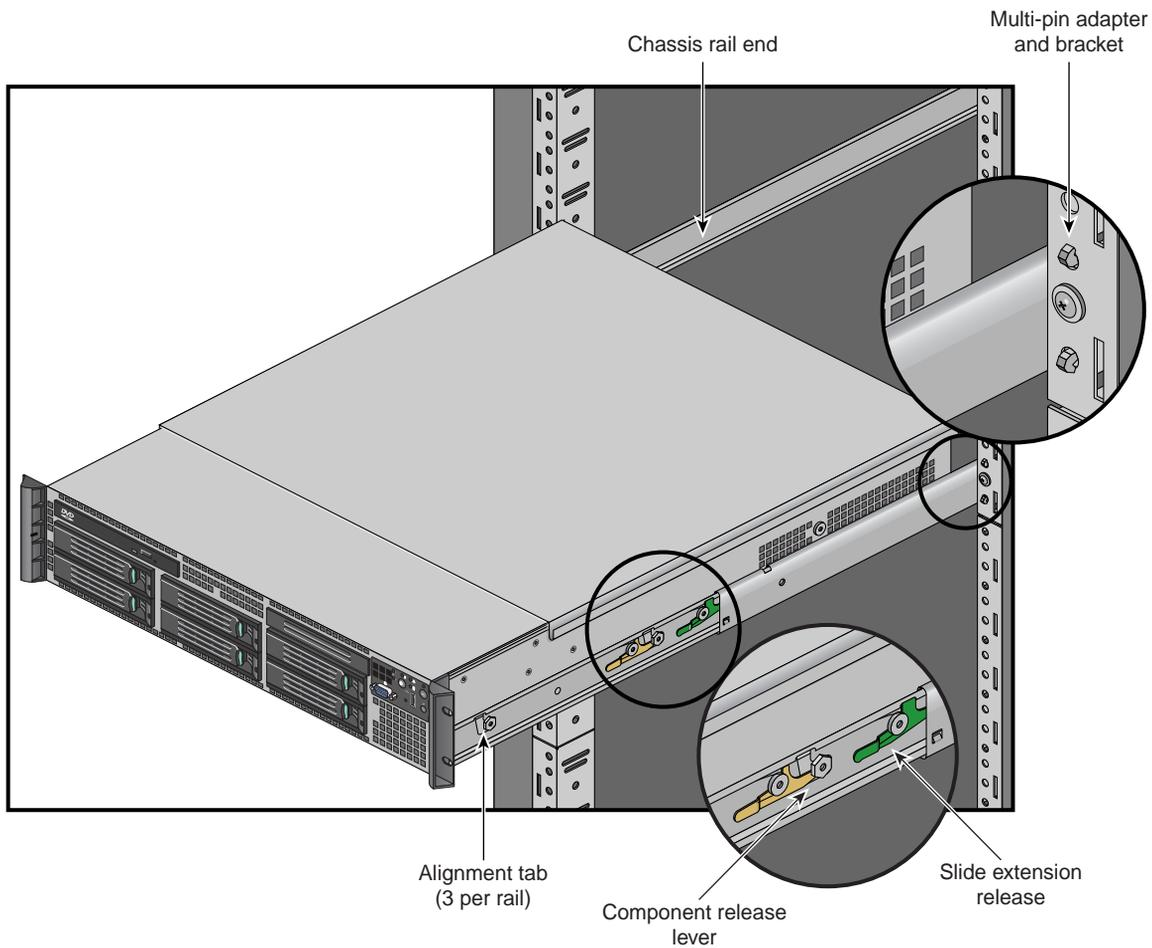

Figure 1-17 Data Manager Slide Rails
Position and secure the support rails in the rack using the information in the following steps and Figure 1-17 on page 20.
- Confirm that all the data manager's mounting studs are correctly in place on the slide rails (see Figure 1-17 on page 20 for an example), before sliding the unit into the rack.